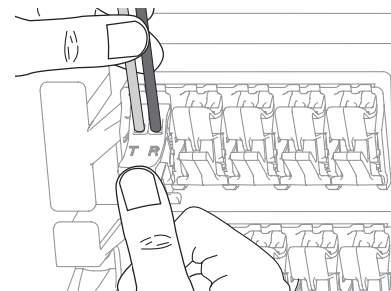

Figure 14
- Insert conductors into ports (Figure 14). Note ports are identified "T" (for Tip) and "R" (for Ring). Conductors should insert approximately 3/8" before bottoming out.